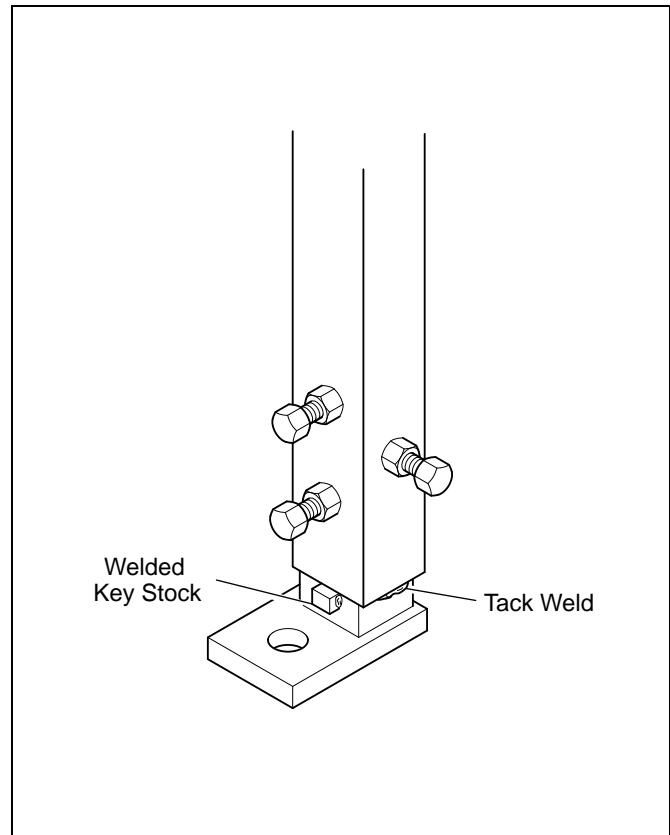

Figure 1.2 Leg Extension Adjustment
4. When the depalletter is in the proper orientation and at the proper height, loosen the three capscrews on each of the six legs to allow the extensions to slide down to the floor. Tighten all bolts on the legs to lock the extensions in place. For additional security, perform either of the following (see Figure 1.2):